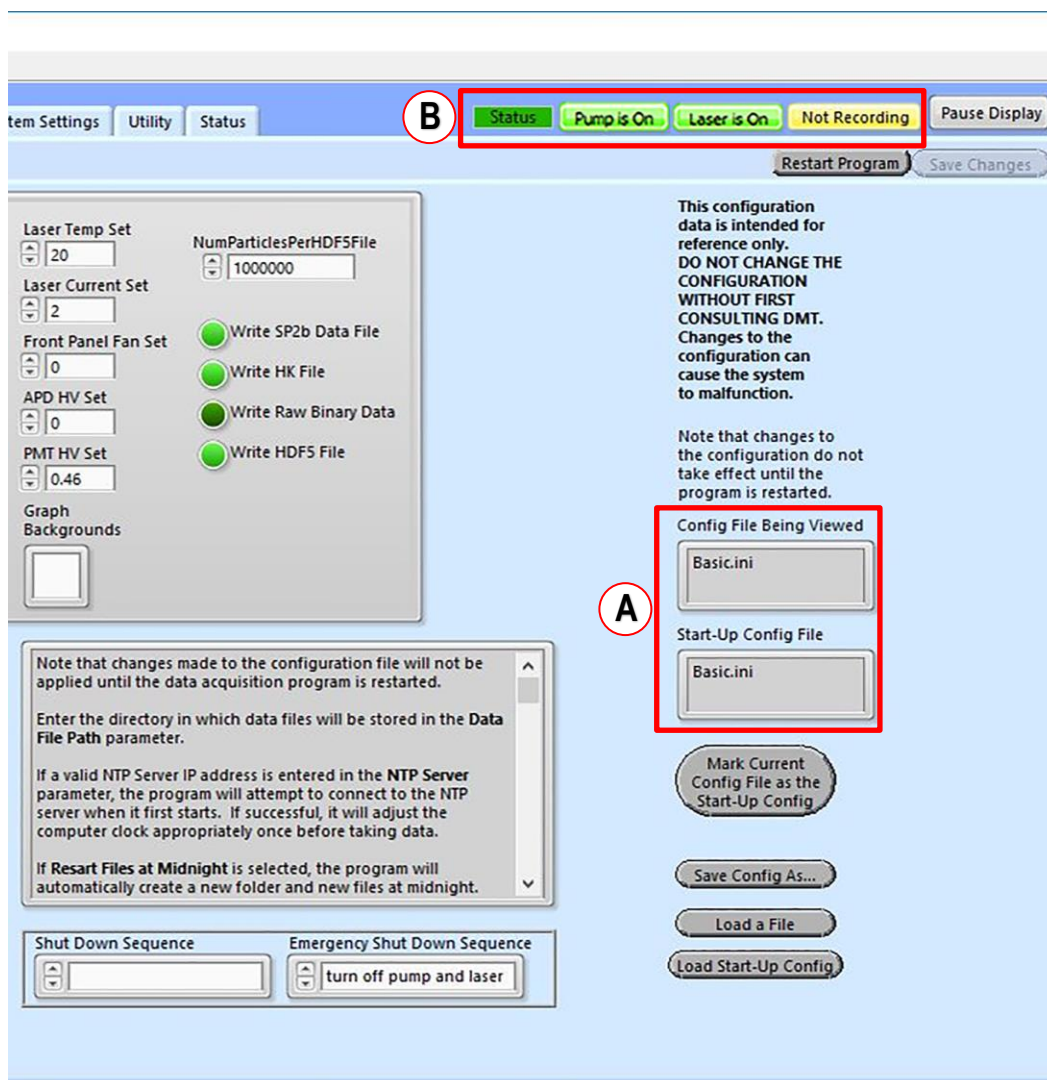

Figure 3: Choose the correct Config file
- Check the status area in the upper right **(B)** (Figure 3) to make sure the Pump and laser are on and running.